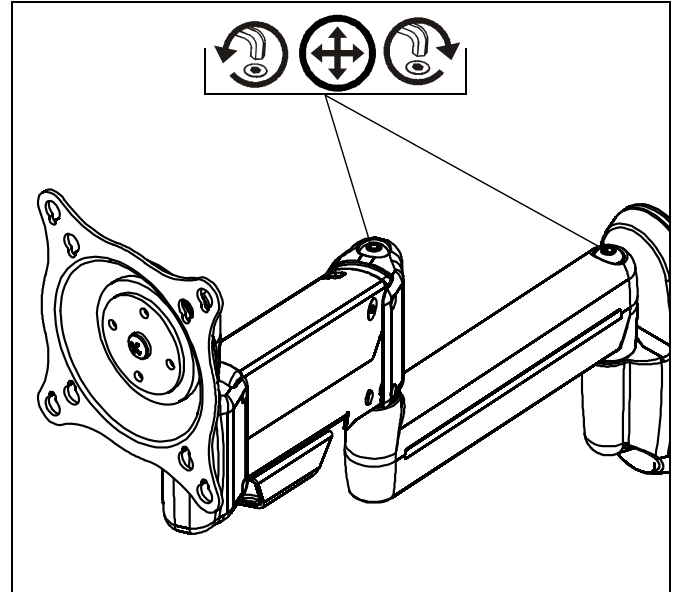

Figure 12
- Using 3/16" hex wrench (C), loosen or tighten adjustment screw(s) as necessary (See Figure 12).